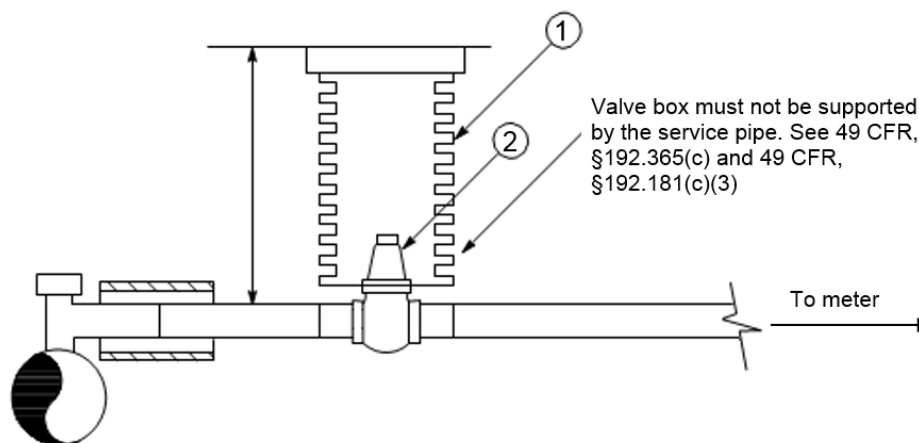

Figure 1. Curb Valve Installation, Distribution System
1.5. For more detail regarding 1 "Valve box and cover" and 2 "Plastic valve," see Figure 1.